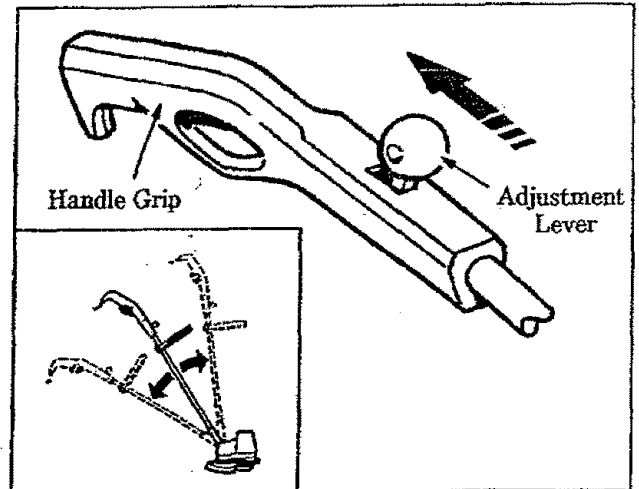

Figure 7
Your trimmer is equipped with a new adjustable handle which makes trimming and edging around hard to reach areas much easier. The adjustment lever is located on the front of the handle grip. Figure 7. Make sure trimmer head is resting on the ground when adjusting the handle.
2. Pull the Adjustment Lever toward the top of the handle. Figure 7.
3. Adjust the handle to the desired position as shown in Figure 7 (inset) and release the Adjustment Lever. The handle will lock into place automatically.